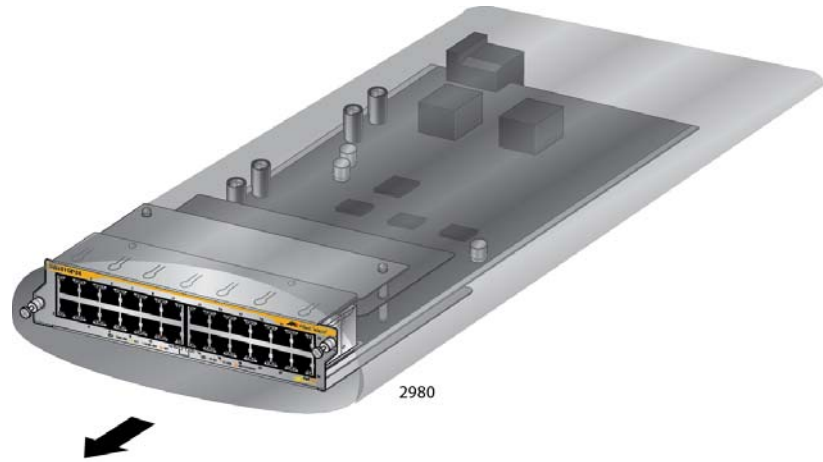

Figure 89. Removing an Ethernet Line Card from the Anti-static Bag
3. Carefully remove the Ethernet line card from the anti-static bag. Refer to Figure 89.